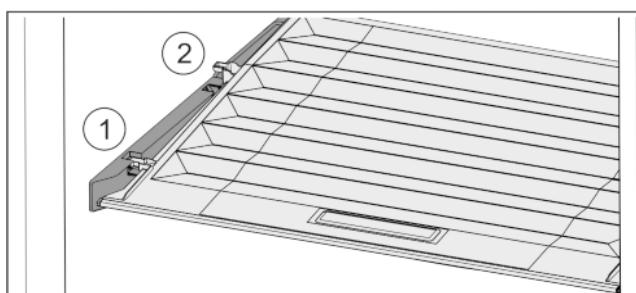

Fig. 30
- ▶ Pull the lid up at the front to the opening in the retaining parts Fig. 30 (1).
- ▶ Lift from the back and pull it up and out Fig. 30 (2).